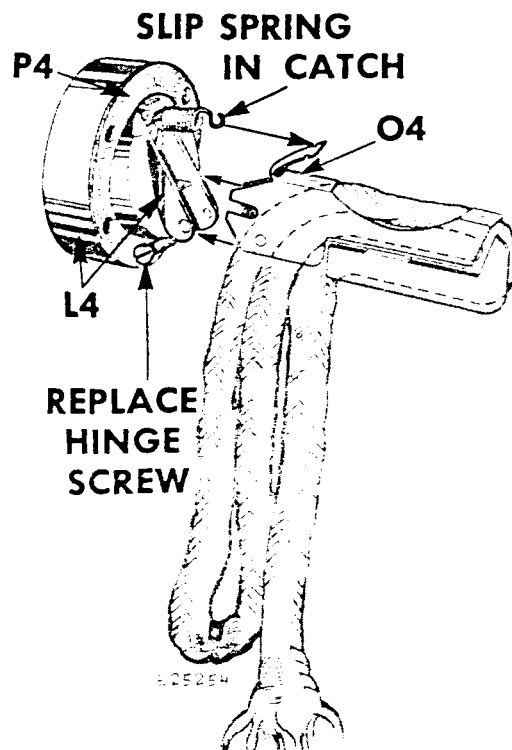

Fig. 62. Installing New Oil-Removing Wick (with Holder) in Assembly 147056
(See Fig. 62)
2. Replace and securely tighten hinge screw as instructed in Fig. 62.
3. Slip end of spring into catch on holder body O4, as instructed in Fig. 62.